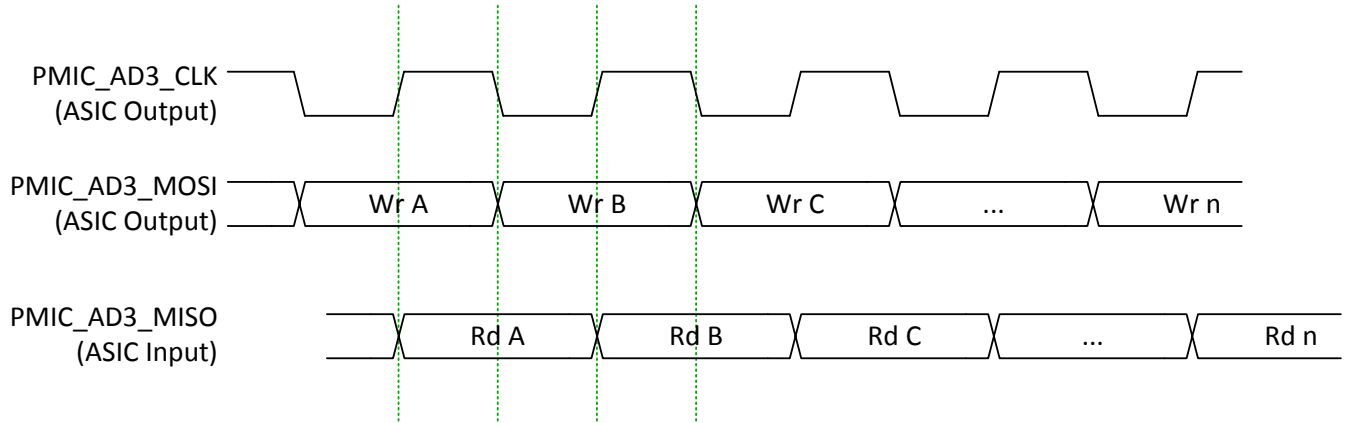

图 5-12. TPS99000-Q1 AD3 Data Capture and Transition
- (1) The DLPC23x-Q1 communicates with the TPS99000-Q1 using a slight variant of SPI Transfer Mode 0 (that is, clock polarity = 0, clock phase = 0). Instead of capturing MISO data on the clock edge opposite from that used to transmit MOSI data, the DLPC23x-Q1 captures MISO data on the same clock edge used to transmit the next MOSI data. As such, the DLPC23x-Q1 SPI interface to the TPS99000-Q1 requires that MISO data from the TPS99000-Q1 remain active until the end of the full clock cycle to allow the last data bit to be captured. This is shown in Figure 5-12.